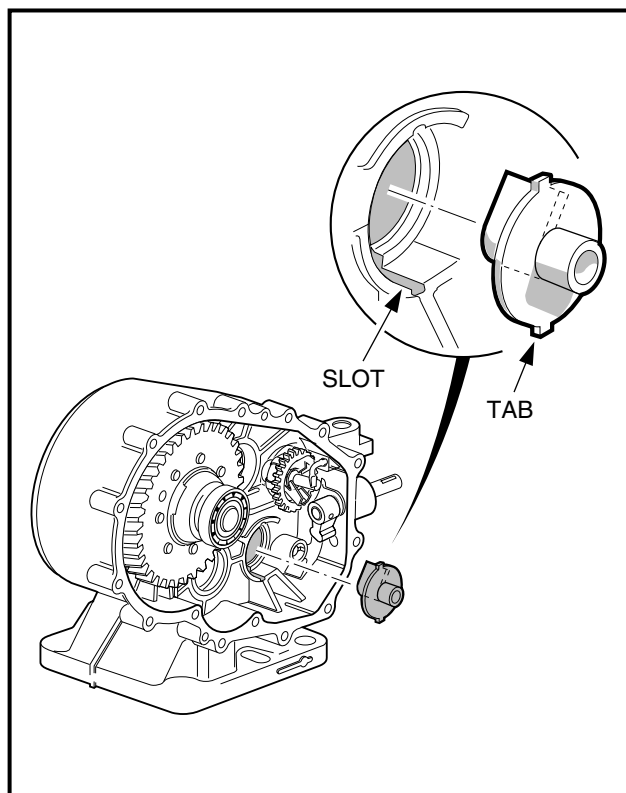

Figure 6-50 Oil Guide
- 7.3. Install the oil guide with the baffle toward the case wall (**Figure 6-50, Page 6-23**). Make sure the two tabs on the guide are positioned in the slots in the case.